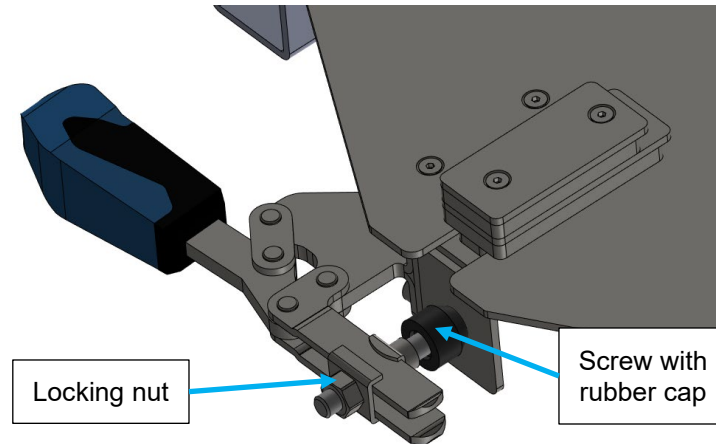

Figure 9: Adjustment of quick release clamp
2. Loosen the locking nut (Figure 9) of the quick-release clamp by turning it counterclockwise.
3. If the quick-release clamp is loose in the closed position, turn the screw with the rubber cap (Figure 9) clockwise so that the rubber cap moves further "towards the barrel support" in the closed position of the quick-release clamp.
- a. If the clamping force of the quick-release clamp is too high and it cannot be closed, turn the screw with the rubber cap (Figure 9) counterclockwise so that the rubber cap moves further "away from the barrel support" in the closed position of the quick-release clamp.
5. Once you have achieved the desired clamping force of the quick-release clamp, tighten the locking nut (Figure 9) clockwise.